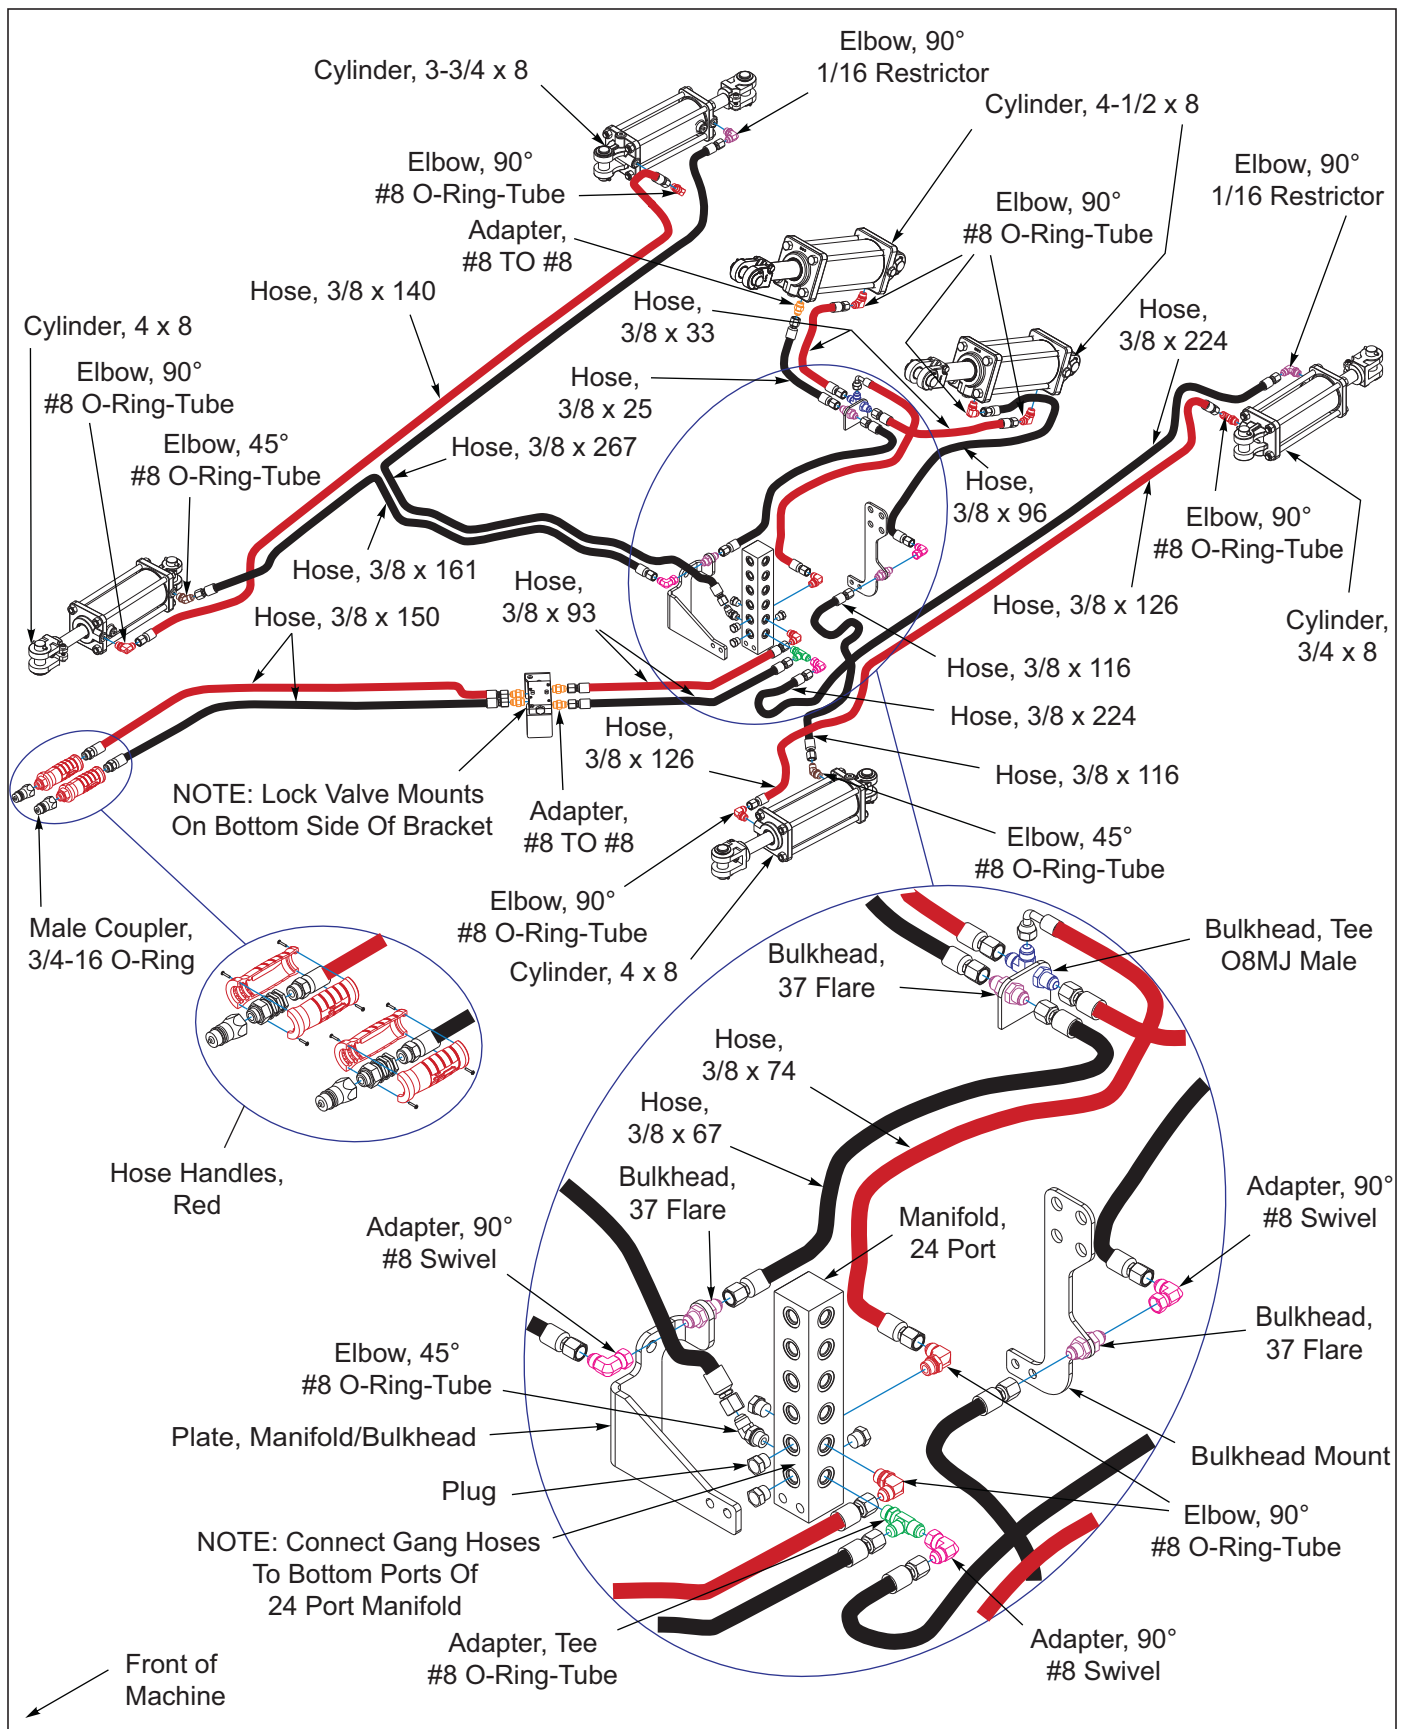
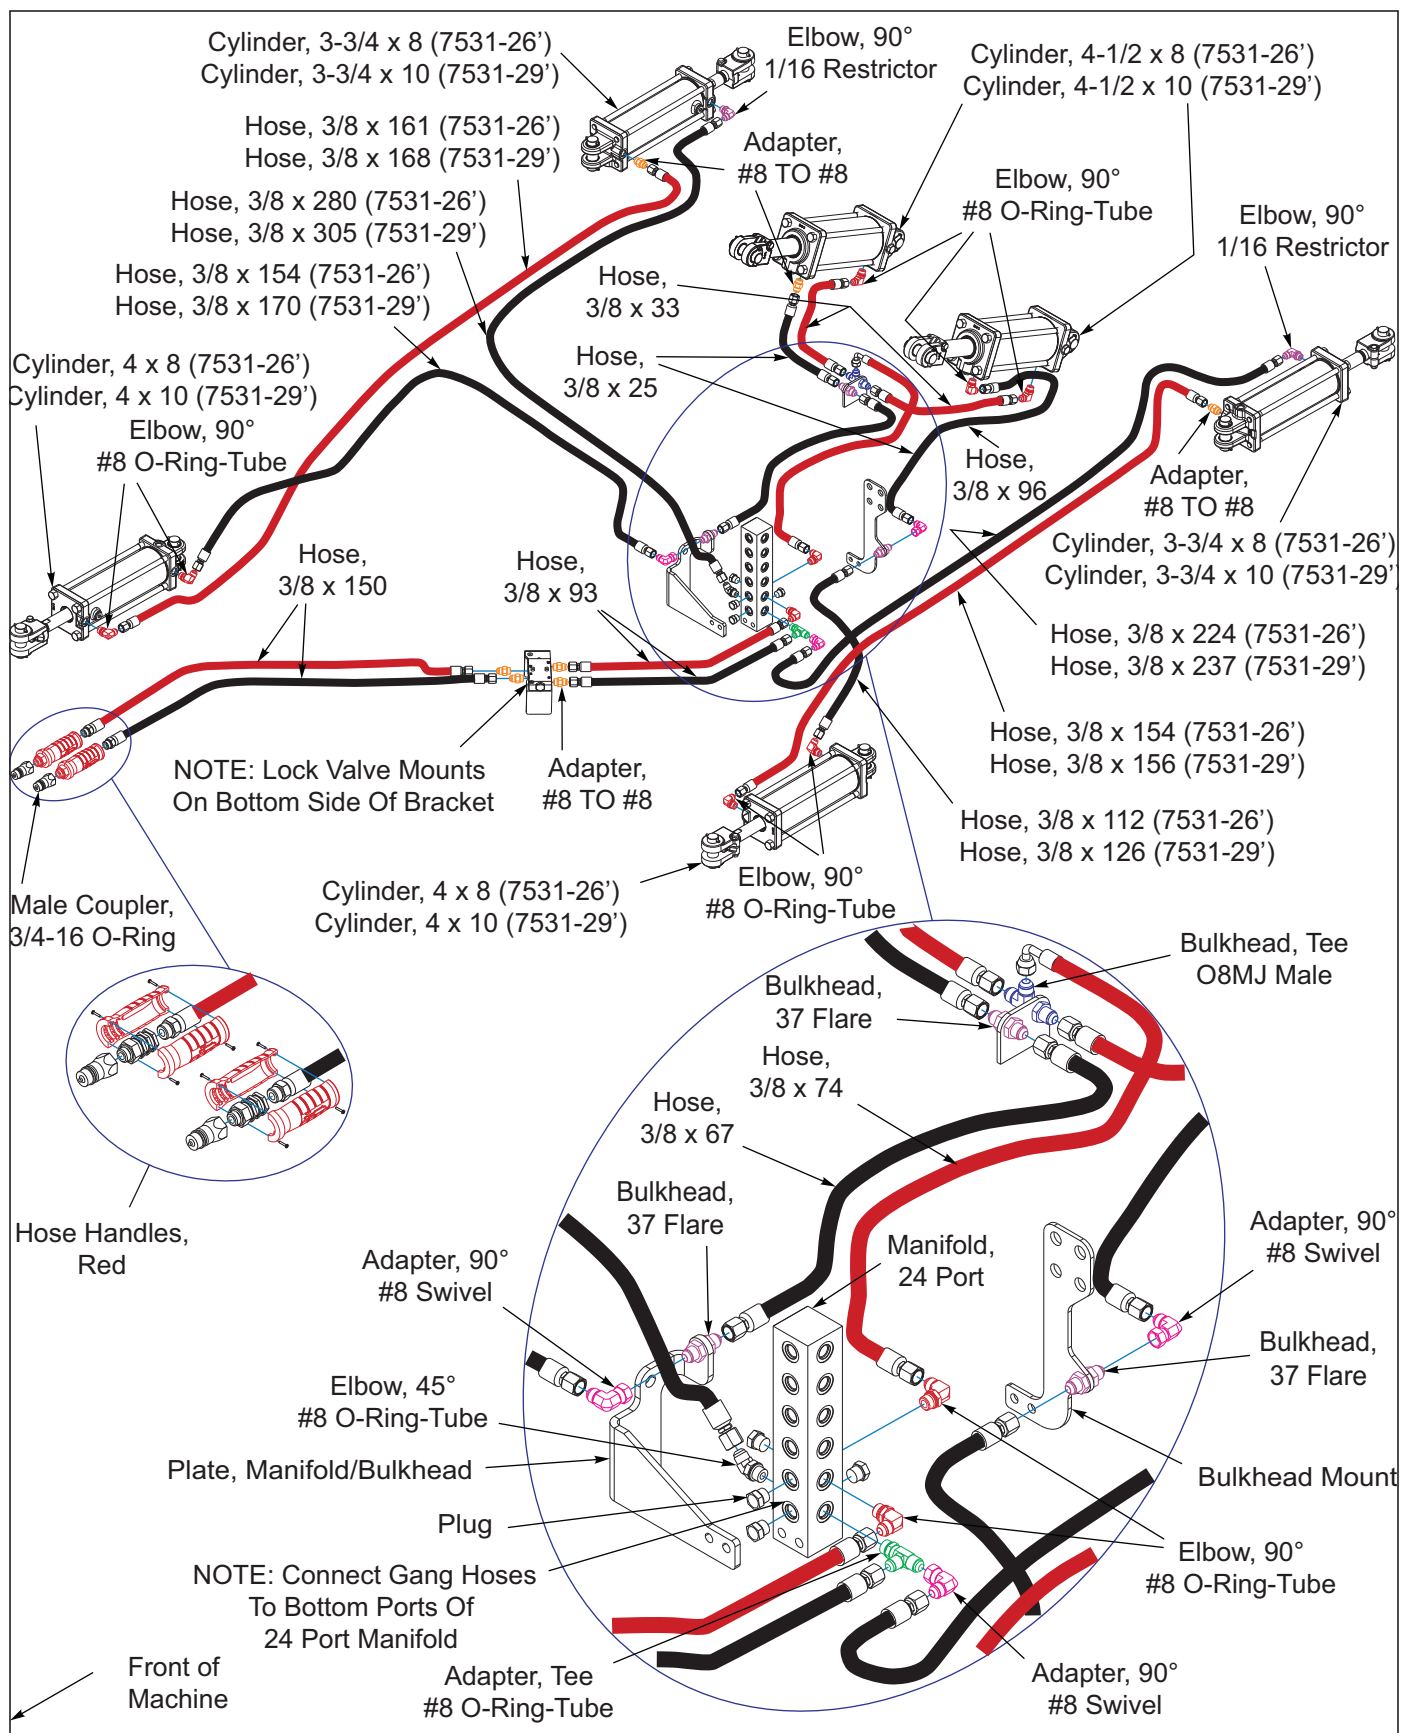

Figure 3-26: Gang Hydraulic Installation 7531-23'
Figure 3-29: Gang Hydraulic Installation 7531-26'-29'
1. The disc gang angle cylinders **See Figure 3-26 7531-23'**, **See Figure 3-29 7531-26'-29'** and **See Figure 3-32 7531-32'/35'** use the following fittings: